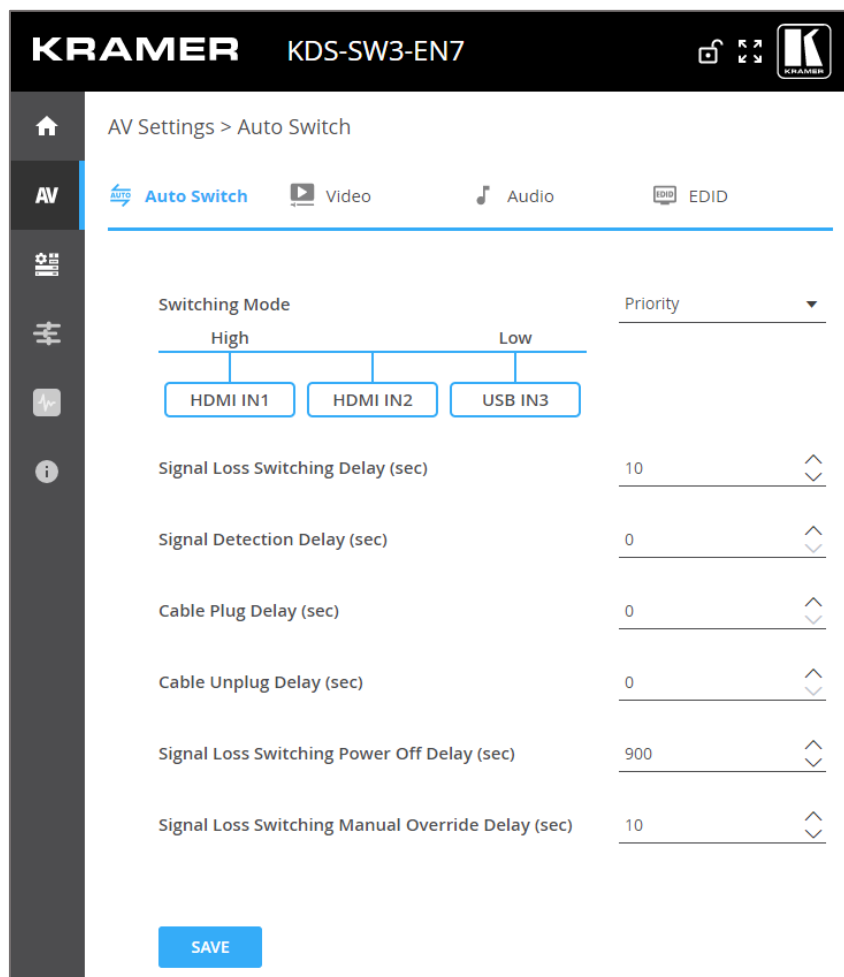

Figure 13: AV Settings Page – Auto Switch Tab
1. In the Navigation pane, Select **AV**. The Auto Switch tab in the AV Settings page appears (see Figure 13).
1. In the Navigation pane, Select **AV**. The Auto Switch tab in the AV Routing page appears (see Figure 13).